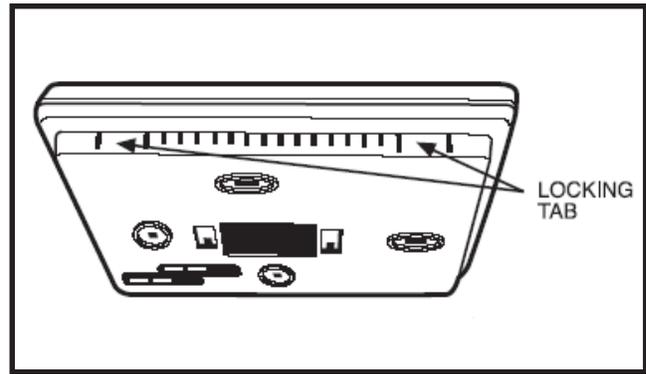
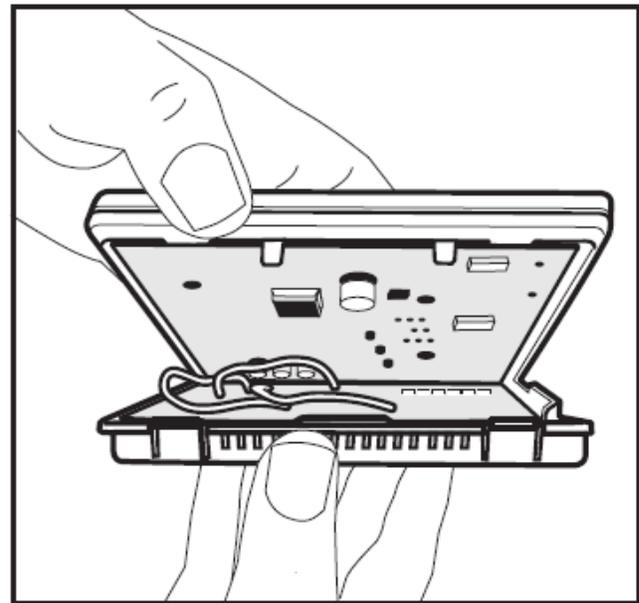

Fig. 1 - Locking Tab Location
Fig. 2 — Mounting Plate Removed
3. Remove mounting plate from back of thermostat display module by pressing the two tabs on the bottom edge and pulling away. See Fig. 1. Figure 2 shows the mounting plate removed from the module.